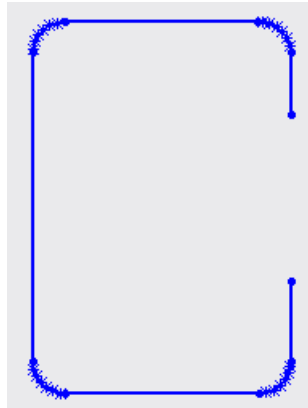

Figure 2
9. Press the Delete key to delete the entities (Figure 2).